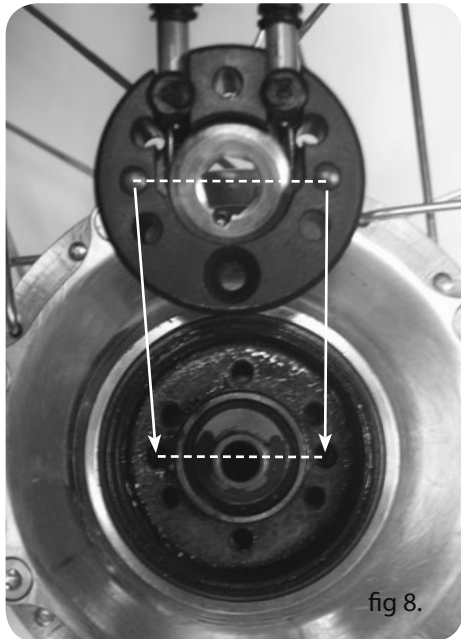

fig 8.
b) The hexagonal peg sits correctly within the hexagonal hole of the brass cable pulley. The groove in brass cable pulley should still be in the seven o'clock position! (see fig.8) Note:- It may be necessary to alter the position of the brass cable pulley left or right by a minimal amount, to aid installation.